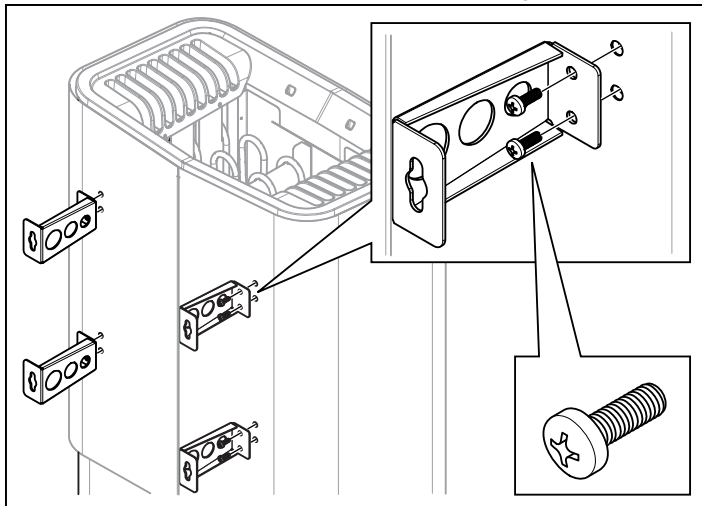

Figure 10: Attaching the brackets to the heater
8. Unscrew the first two screws on the back of the heater and screw one of the four brackets into place. Repeat the procedure until all of the brackets are fitted see Fig. 10.